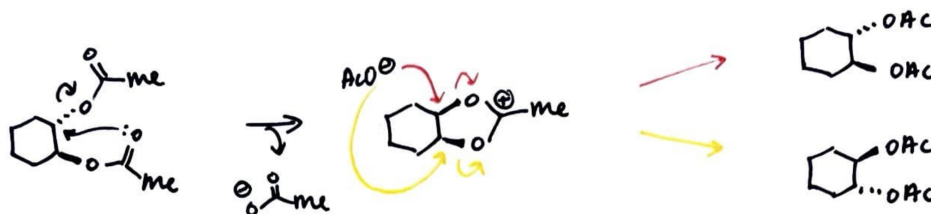

Figure 6.32: Neighboring group participation with carbonyls.
- Thus, we must be going through an achiral intermediate, which we can build with the displacement drawn in Figure 6.32.